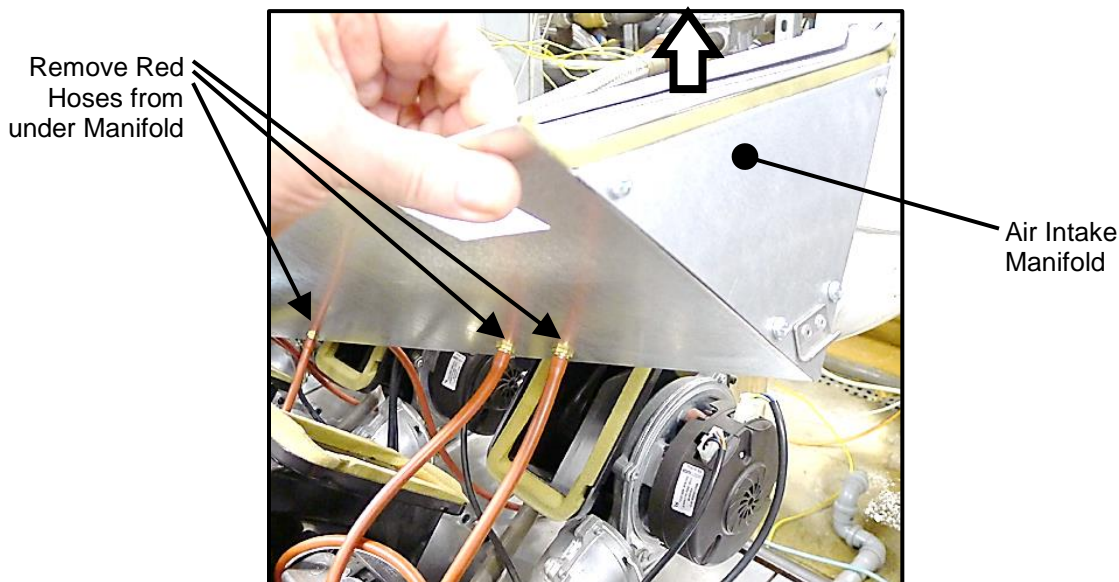

Figure 8-10: Removing Red Hoses and Manifold from Unit (Step 6)
6. Remove the red hoses (quantity depends on model) from bottom side of manifold (Figure 8-10), then lift entire manifold from the unit. **Lift out manifold after removing red hoses.**